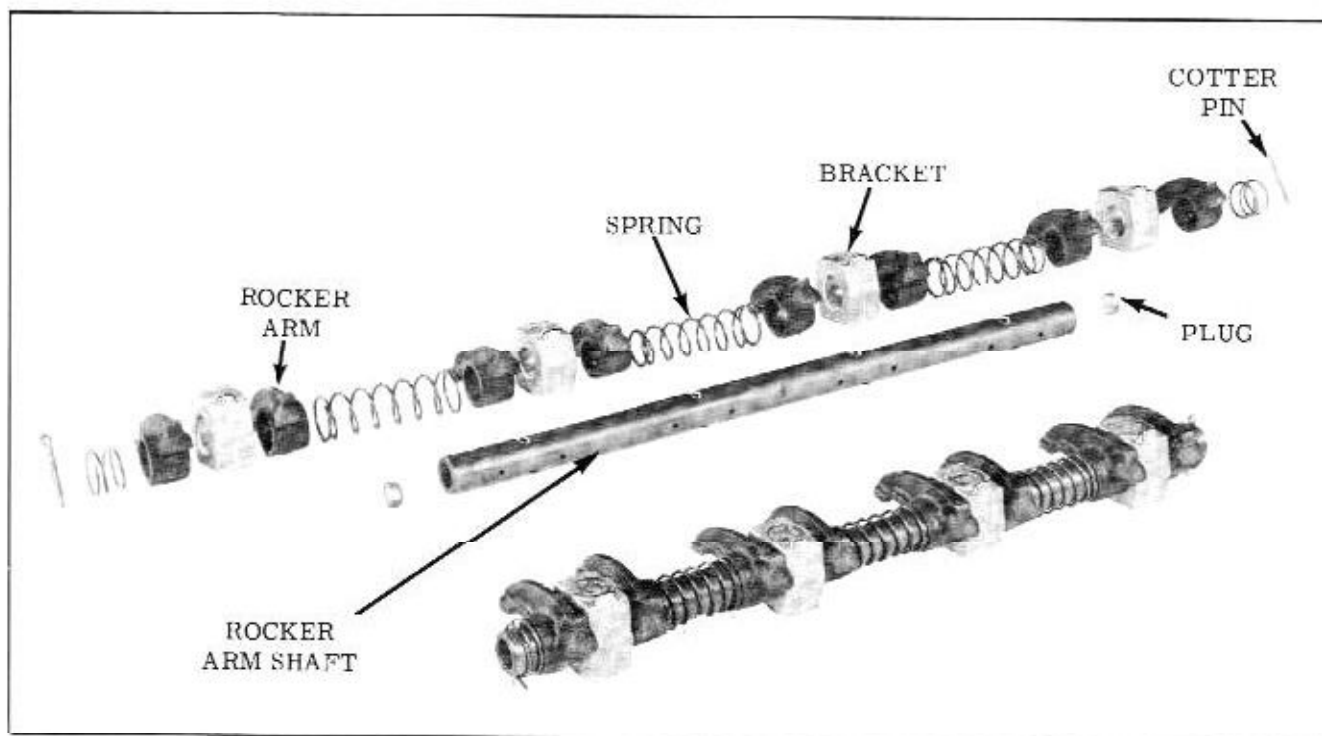

Fig. 8-8 Rocker Arm Shaft Assembly
2. Lubricate frictional surfaces of rocker arms and shaft with engine oil and assemble. (Fig. 8-8)